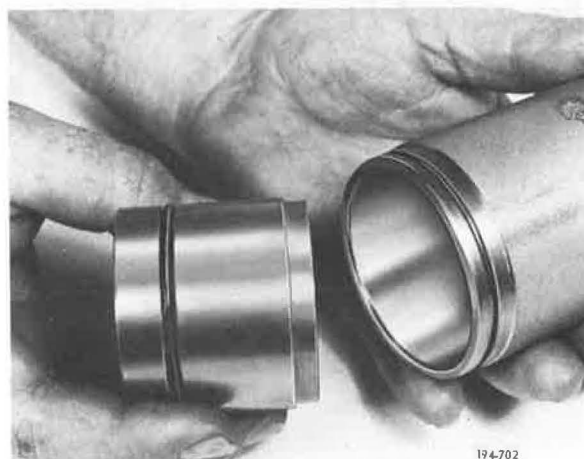

Figure 5-360. Removing Piston
13. Remove Lo-range piston from Lo/Direct shift cylinder. See Figure 5-360.